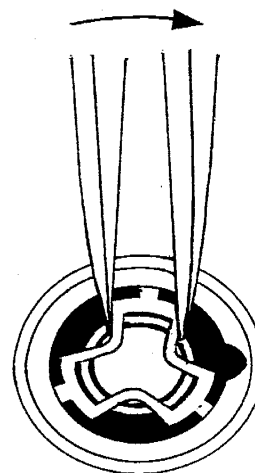

Fig. 2
1. To remove the spring, turn it gently with a tweezers as shown in Fig. 2.